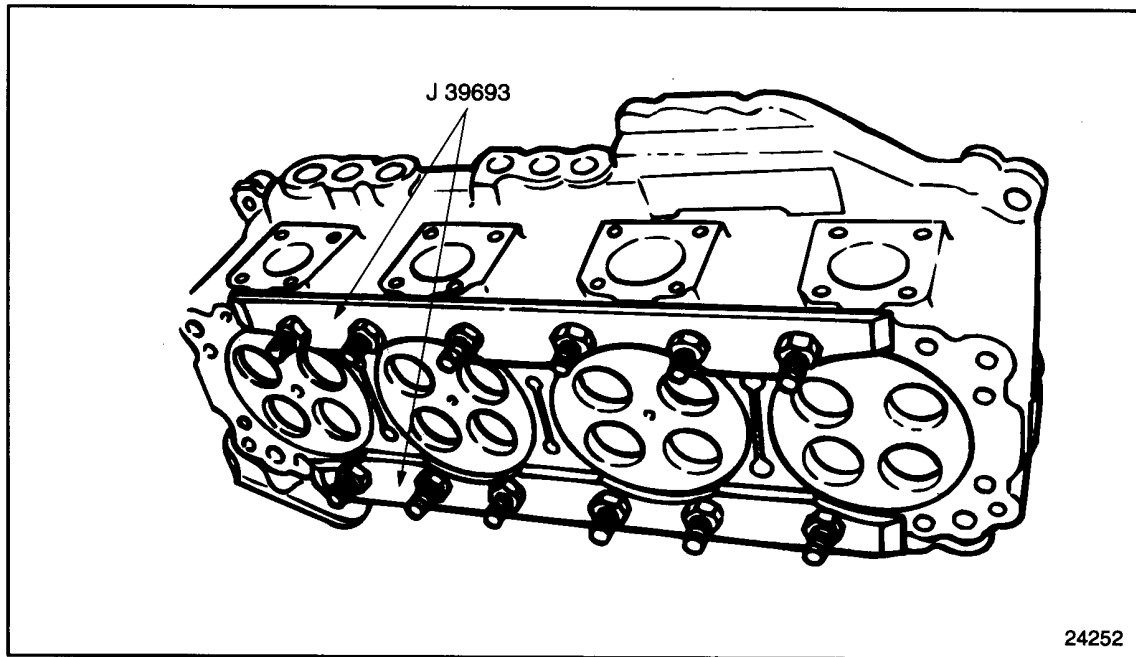

Figure 1-35 **Cylinder Head Pressure Test Equipment Installation**
1. Install the test strips (part of cylinder block pressure test kit) to the firedeck on the cylinder head. See Figure 1-35.